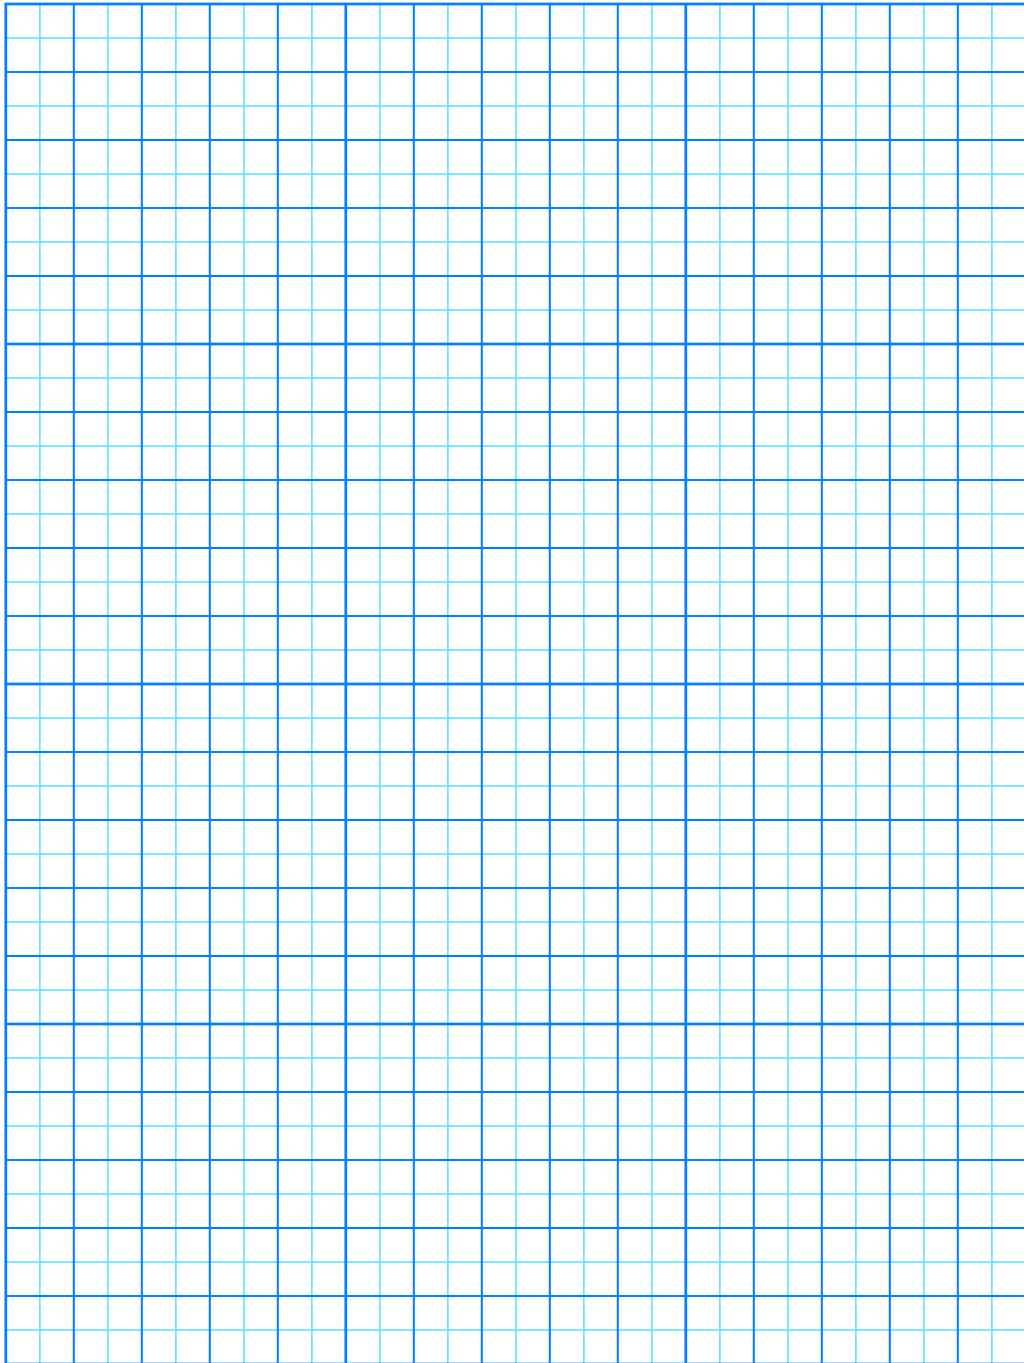

FIGURE 4-5. Enzyme reaction rate for different pH.
6. Construct a graph to illustrate your results showing reaction rate as a function of pH. **Complete the plot (Figure 4-5) with appropriate title and labels on each axis.**